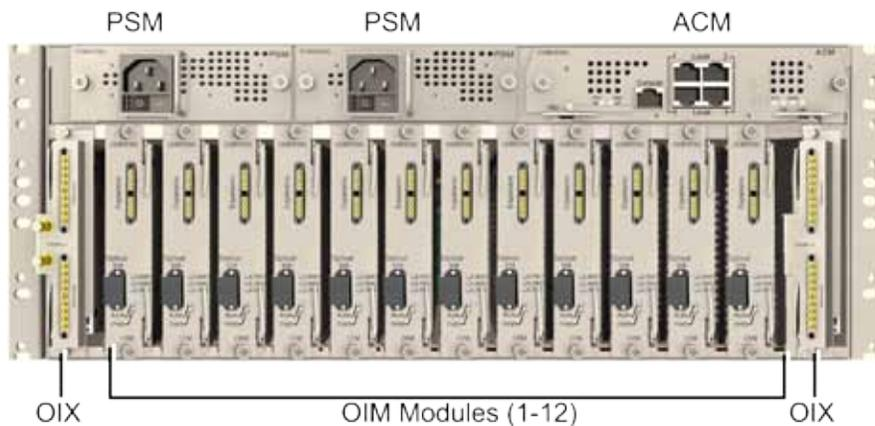

Figure 5-27. Location of OIU Front Panel Modules in Chassis
1. Refer to Figure 5-27 for module locations. Remove blank panel (where relevant) and slide in the relevant module (chassis slots are 100% mistake proof):